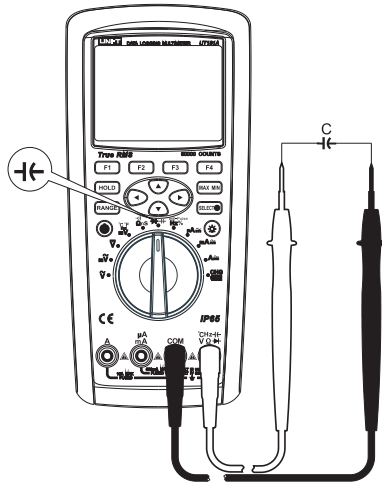

Figure 9
- 2) Set the rotary switch to the measurement  $\overline{C}$  , press the key SELECT to select capacitance measurement. Connect the test leads to both ends of the measured capacitance as shown in Figure 9.